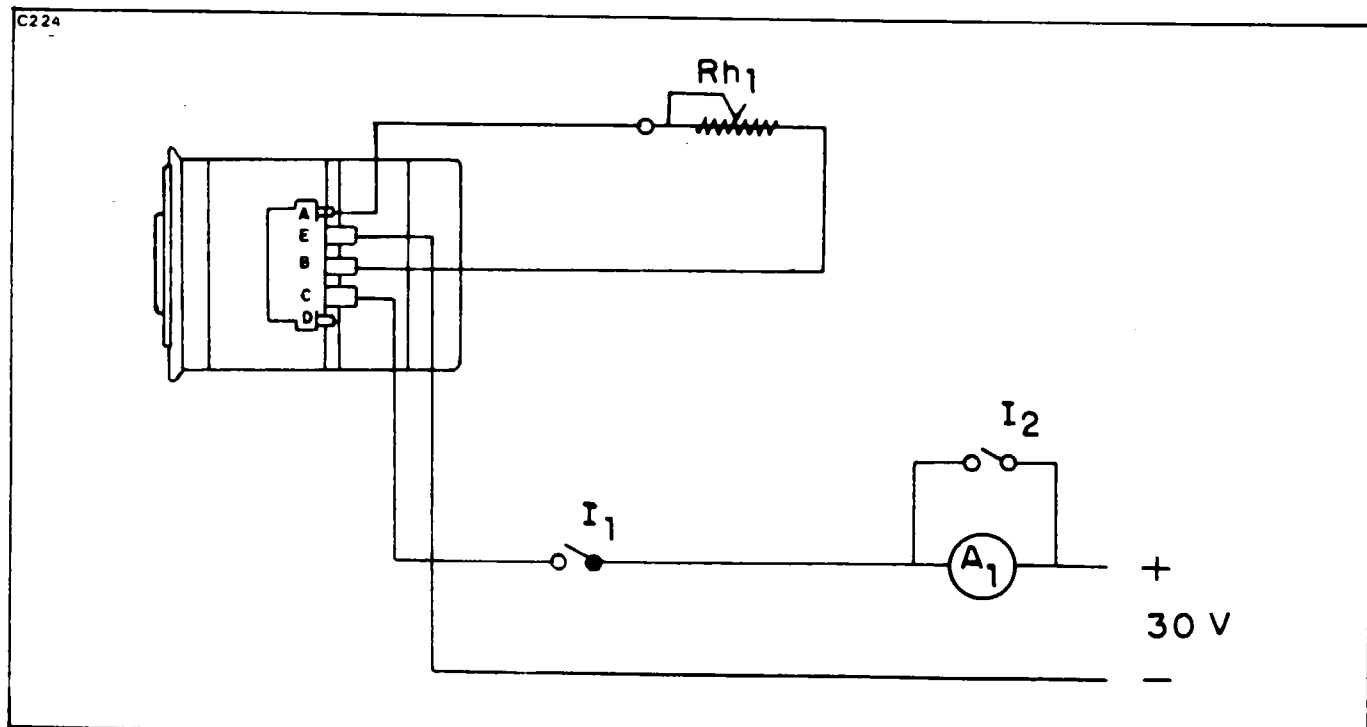

Figure 24-9. Brush Running in Diagram
BRUSH RUNNING IN (Refer to Figure 24-9).
- C. Connect the starter generator according to Figure 24-9.